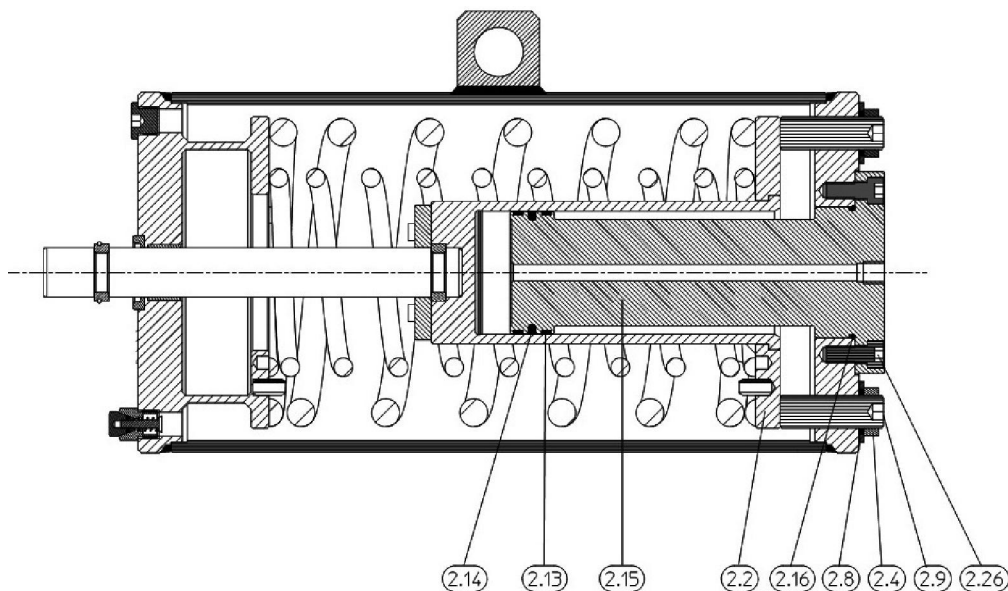

Fig. 10 – Hydraulic cylinder seals replacement of single acting actuator
Before starting with the disassembling of the hydraulic parts be sure that the power fluid is completely exhausted and the end stoppers (item 9 on Fig. 10) are fully engaged and blocked against the spring holder